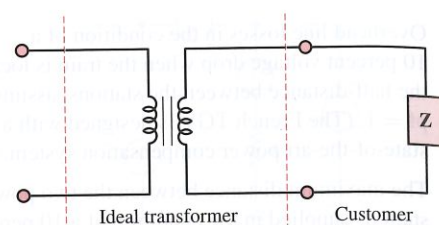

Figure P7.45
7.45 An ideal transformer is rated to deliver 460 kVA at 380 V rms to a customer, as shown in Figure P7.45.